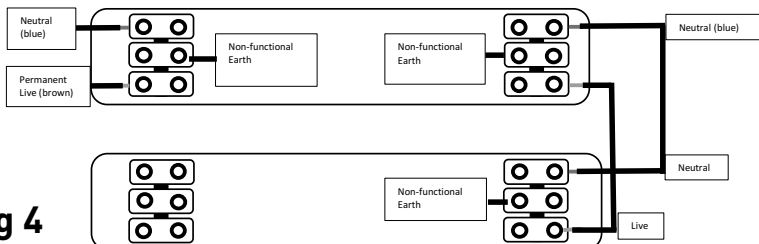

Fig 4
- Wire up terminal block as shown in Fig 4